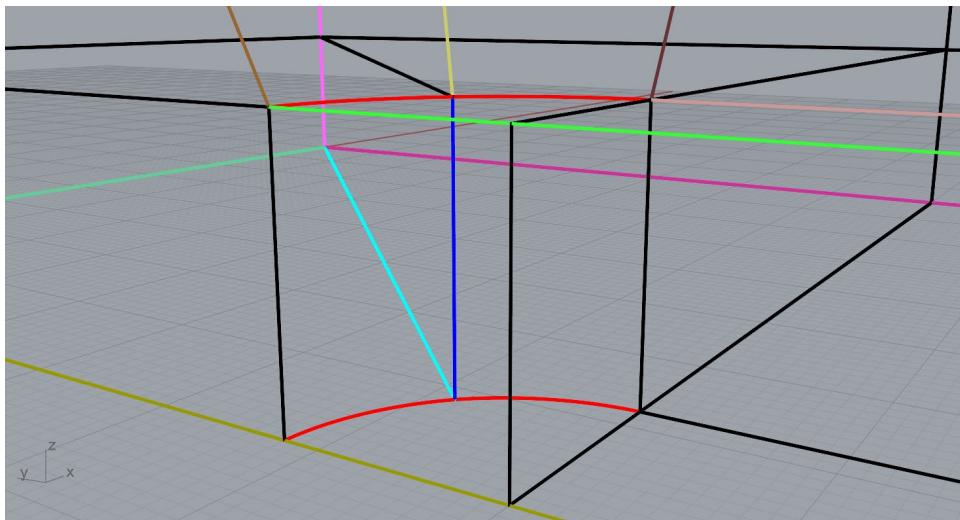
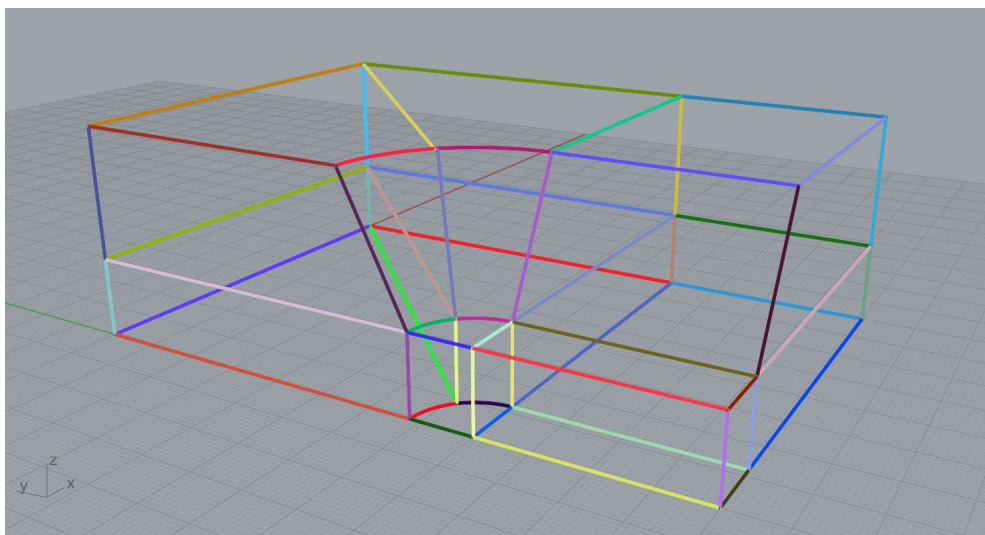

Figure 40: Connecting the middle ends of the arcs (blue lines).
Figure 41: Model wireframe ready to be used for block creation.
12. Connect the middle nodes as shown in Figure 40 with the dark blue line. Connect the bottom end of the dark blue line to the opposite corner as shown in Figure 40 with the light blue line.
13. Split all intersecting lines (mostly those from the reference model) by using the **_Split** command. For this, first select the line to split and then select a line that intersects or connects to it. For example, the tan line at the bottom of Figure 40 can be split into three pieces by the connecting black lines. The resulting wireframe should contain 56 curves (**Ctrl+A** and check the number of selected objects) and is the basis for creating solid blocks (Figure 41). Select all lines and run **_ColorizeObjects** (or press  in the *Griddle* toolbar) to give each line a unique color.